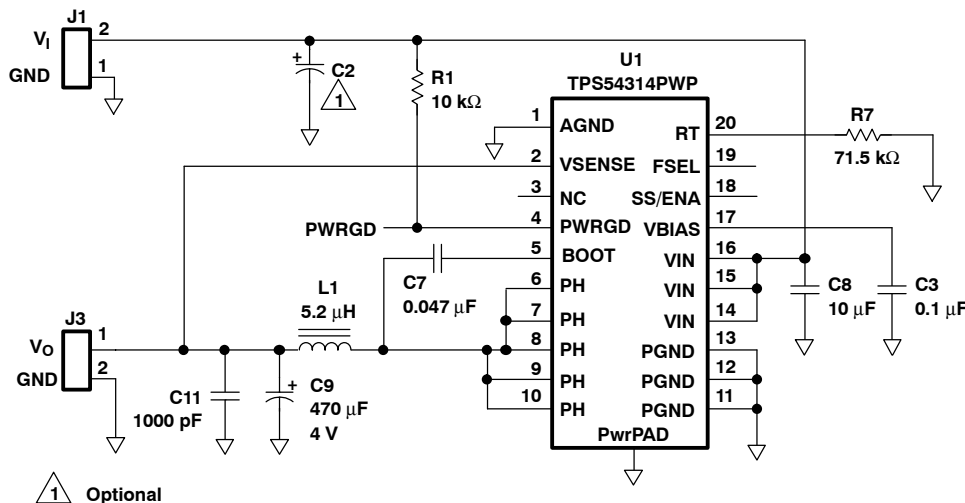

Figure 10. TPS54314 Schematic
(3) Specified by the circuit used in Figure 10.
Figure 10 shows the schematic diagram for a typical TPS54314 application. The TPS54314 (U1) can provide up to 3 A of output current at a nominal output voltage of